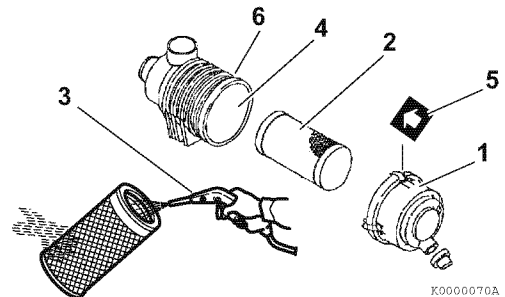
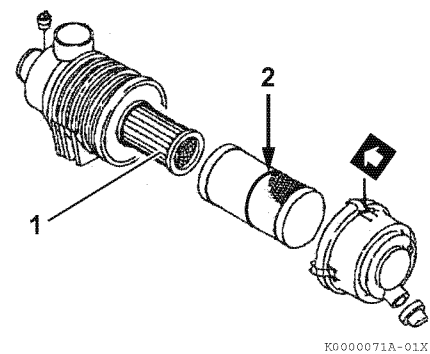

Figure 5-11
Figure 5-12
Note that a typical air cleaner is shown in **Figure 5-11** and **Figure 5-12** for illustrative purposes only.
1. Unlatch and remove the air cleaner cover (**Figure 5-11, (1)**).
2. Remove the element (**Figure 5-11, (2)**) (outer element if equipped with two elements).
3. Blow air (**Figure 5-11, (3)**) through the element from the inside out using 42 - 71 psi (0.29 - 0.49 MPa; 3.0 - 5.0 kgf/cm²) compressed air to remove the particulates. Use the lowest possible air pressure to remove the dust without damaging the element.
If the air cleaner is equipped with a double element, only remove and replace the inner element (**Figure 5-12, (1)**) if the engine lacks power or the dust indicator actuates (if equipped).
6. Install the element into the air cleaner case (**Figure 5-11, (4)**).
7. Install the air cleaner cover making sure you match the arrow (**Figure 5-11, (5)**) on the cover with the arrow on the case (**Figure 5-11, (6)**).
Replace the air cleaner element (**Figure 5-11, (2)**) every 500 hours even if it is not damaged or dirty.
When replacing the element, clean the inside of the air cleaner case (**Figure 5-11, (4)**).
If the air cleaner is equipped with a double element, only remove and replace the inner element (**Figure 5-12, (1)**) if the engine lacks power or the dust indicator actuates (if equipped). This is in addition to replacing the outer element.